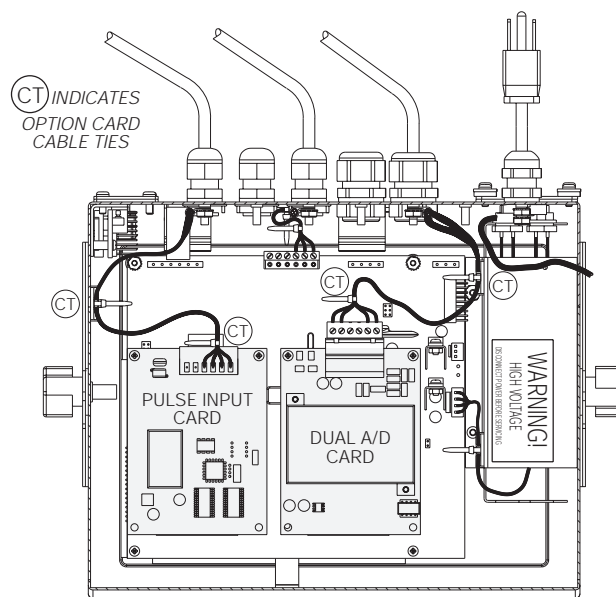

Figure 2-6. Installed Option Cards, Showing Secured Cables
4. Make connections to the option card as required. Use cable ties to secure loose cables inside the enclosure as shown in Figure 2-6. When installation is complete, reassemble the enclosure as described in Section 2.5 on page 8.